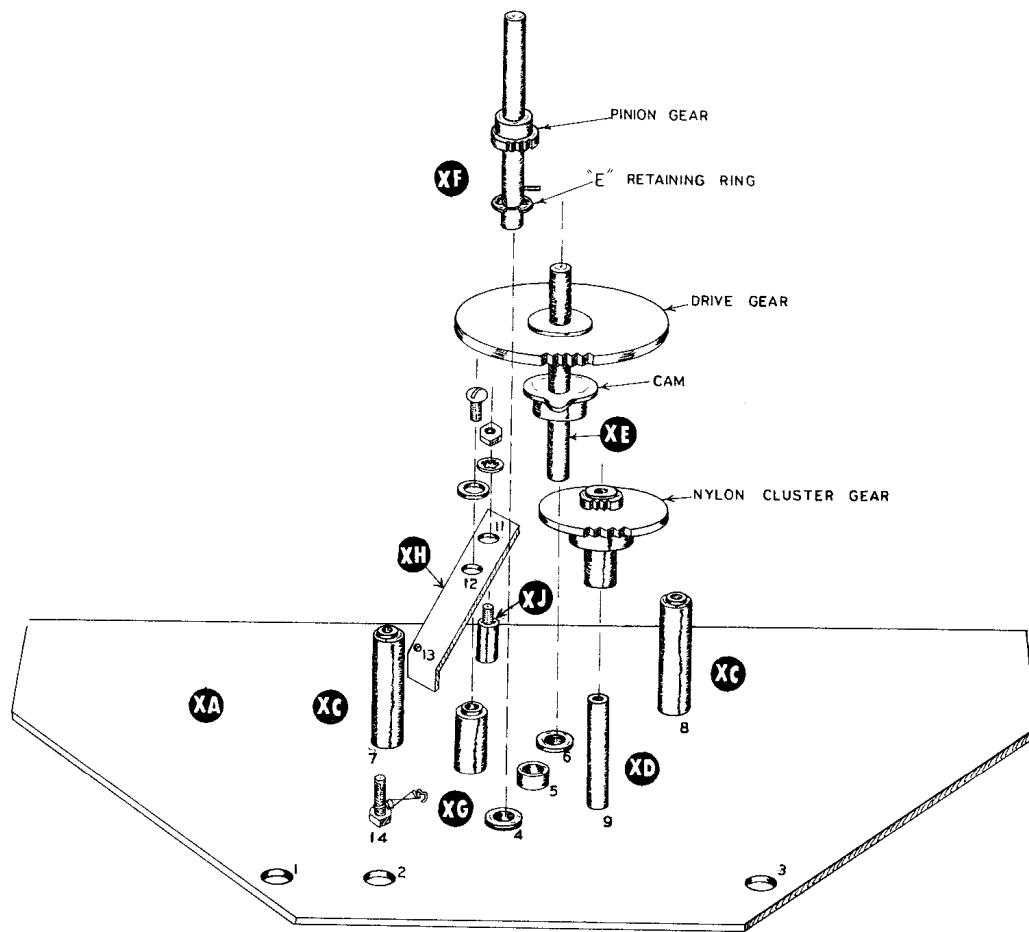

Figure 8
- (-) Place the backplate XA on the top of an open cardboard box with the flanged side of the three bronze bearings up and the narrow side toward you, as in Figure 8. Placing the unit on a box allows it to be flat and permits the shaft to be inserted through the bearings and supports them in position. From time to time it will be necessary to pick up the backplate for assembly purposes but returning it to the "reference" position will make the assembly instructions clearer.